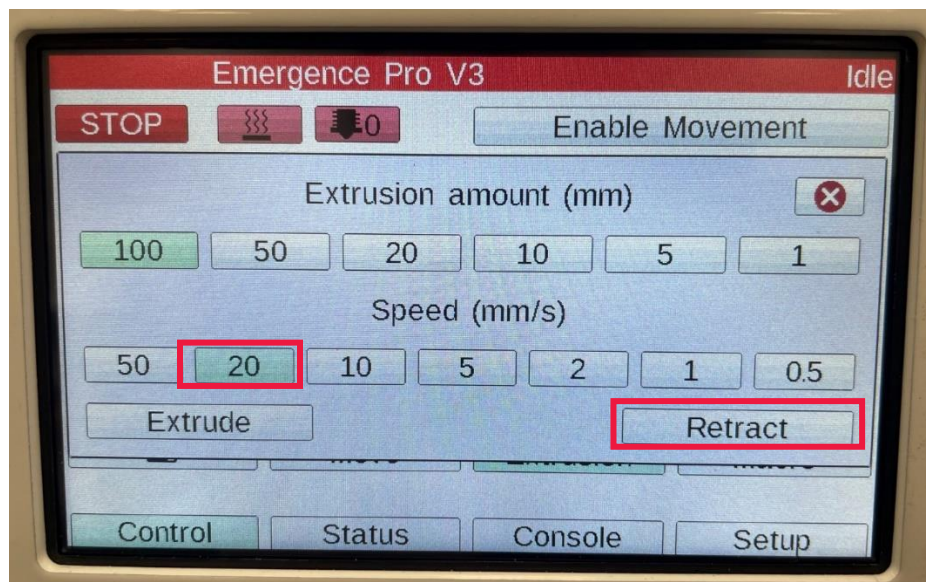

Figure 31: Retract
11. Via the **Extrusion** button on the printer display, extrude 200 mm to prime the hot end (Figure 31).
13. Wipe the nozzle with the wire brush from the tool kit and perform a 20 mm retract by pressing '20' once (Figure 31).